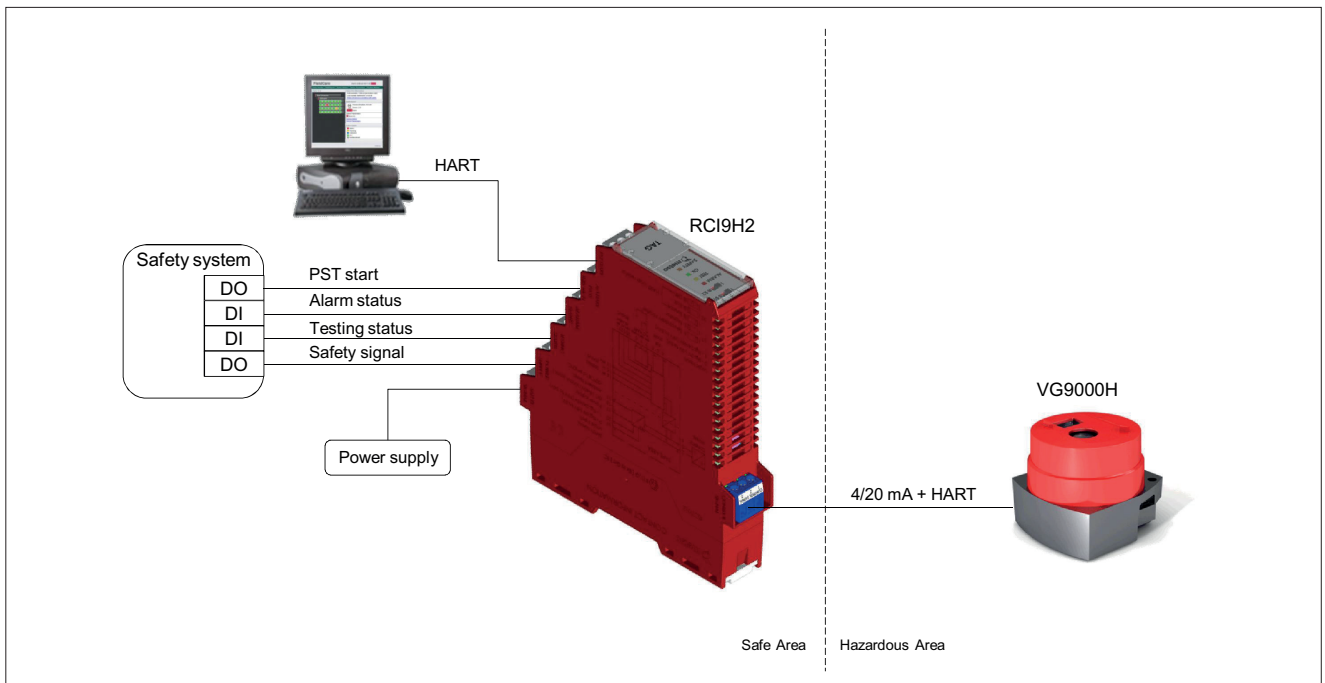

Fig. 1 RCI9H2 System Level Diagram
RCI9H2 is meant to be used together with Neles™ ValvGuard™ VG9000H intelligent safety solenoid. It is needed when 24 VDC output (DO) is used in the safety system. RCI9H2 is connected between the safety system and the field device VG9000H as presented in Figure 1. The primary function of RCI9H2 is to convert safety binary input from a safety DO (Digital Output) system into a SIL 3 compatible 4-20 mA current signal. RCI9H2 also provides relay outputs for monitoring the test and alarm status of the VG9000H and a discrete input for commanding VG9000H to start a PST (Partial Stroke Test).